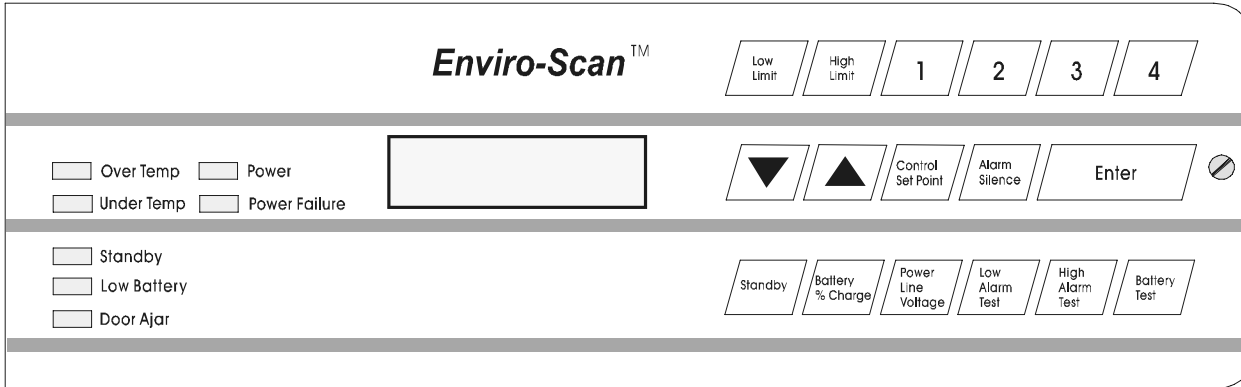

Figure 3-1
3.3 Key Functions Requiring No Access Code (Refer to Figure 3-1)
3.4 Key Functions Requiring the Access Code (refer to Figure 3-1)